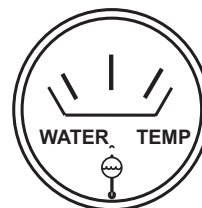

Figure 45. Coolant Temperature Gauge
13. The coolant temperature gauge (Figure 45) will indicate the coolant temperature. Under normal operating conditions the coolant temperature should be between 165 and 215 degrees Fahrenheit (Green Zone).